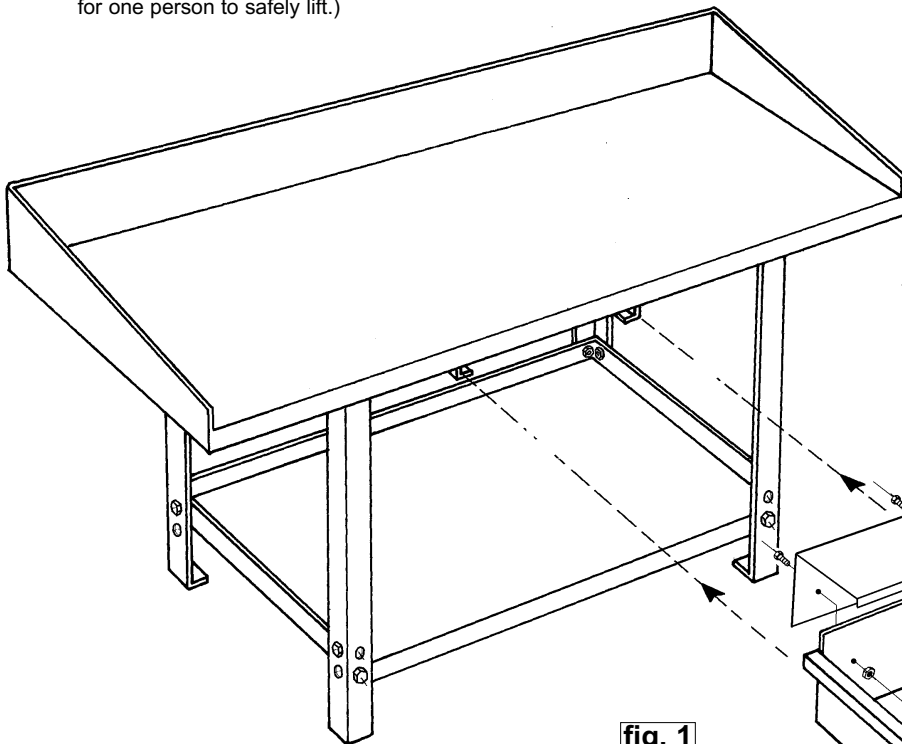

fig. 1
- 4.0 To assemble the barrel lock to the draw (see fig.1-A), hook the the locking arm through the draw front making sure that the lock is rotated so the flats on the barrel line up with the flats in the hole and the lock is the right way up so that the arm turns upwards into the locking position. Refer to fig.1. To fix the lock in place press firmly on the front of the lock until the two sprung teeth on the barrel pass through the hole and come to bear on the inside face of the draw.
- 4.1 Slide the draw unit half way into the sheet metal runners on the underside of the bench top (see fig.1-B). Take the bent sheet metal draw stop component (see fig.1-C) and bolt it to the back of the draw in the orientation shown in the drawing. The draw stop will then come to rest on the back of the bench front edge thus preventing the draw falling out when it is fully opened.